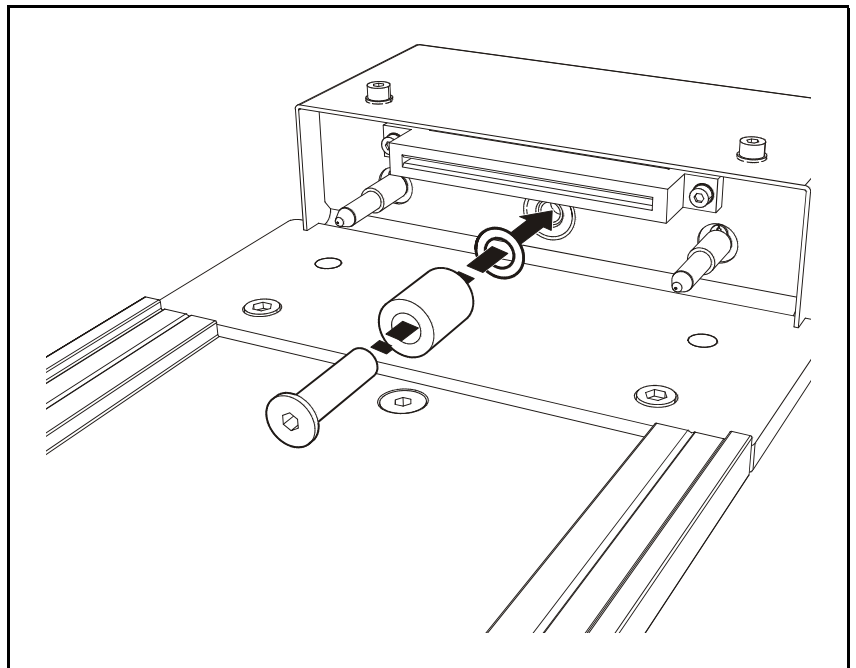

Figure 12-2. Add or remove shims for correct alignment
6. Add or remove shims as necessary, see Figure 12-2. Shims are available in different thicknesses. Use the cross hair scaling to determine how much off-center the mark is in the Y direction.